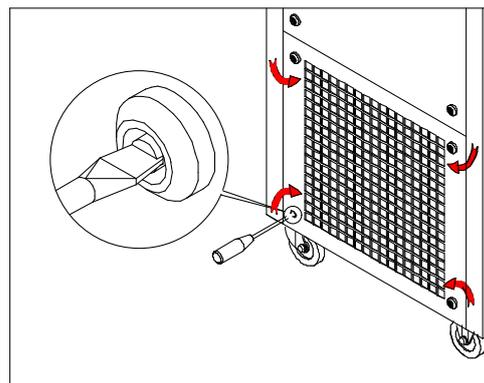

Figure 1-3
- H. Open the back panels (Figure 1-3). Make sure all the components are not loose during transport. Such as motor, motor belt, compressor and so on